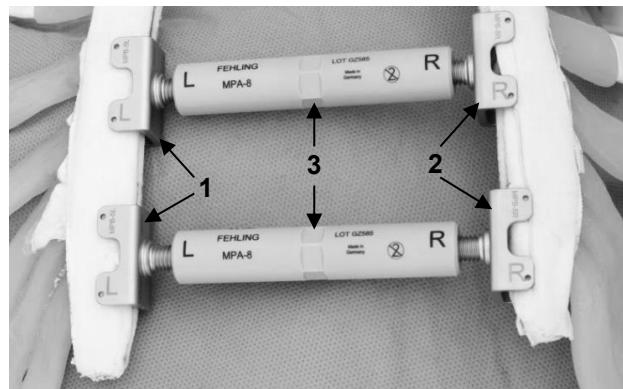

Fig. 2: Configuration example for use in osteoporosis
In contrast to the other patient groups, **two** sternal retainers each consisting of a PEEK nut (3) and two sternal blades (1 and 2) (MPB-5 R/L, MPB-6 R/L) must be inserted parallel to each other (Fig. 2).